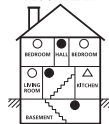

FIGURE 3
- Locate the first alarm in the immediate area of the sleeping rooms. Try to monitor the exit path as the sleeping rooms are usually farthest from the exit. If more than one sleeping area exists, locate additional alarms in each sleeping area (See figure 3).